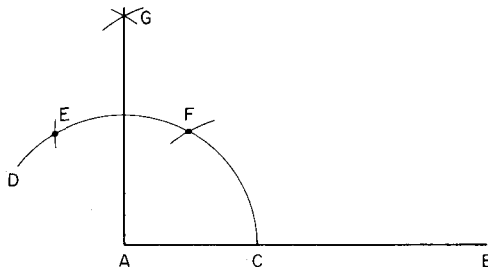
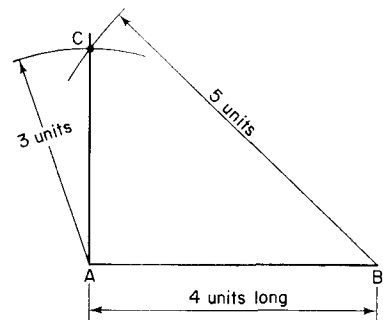

Fig. 3.2
Fig. 3.3
- (1) Draw one side of the square AB.
- (2) From A construct a perpendicular, see Fig. 3.2 or Fig. 3.3.
- (3) With centre at A draw an arc from B to cut the perpendicular at C.
- (4) With centres at B and C draw arcs crossing at D.
- (5) Join CDB to complete the square. Rectangles may be constructed in a similar manner.